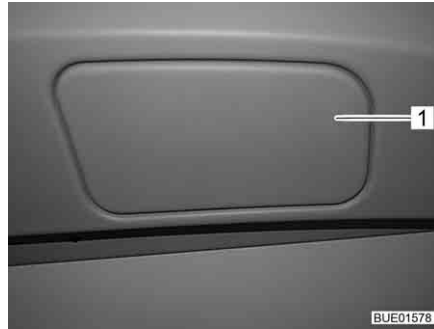
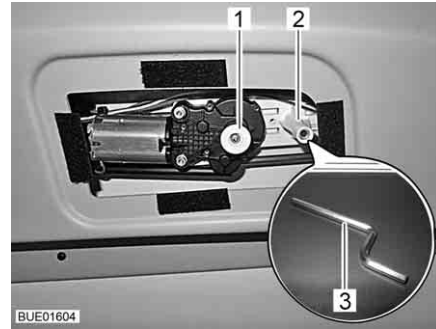

Fig. 35 Emergency release cover
Fig. 36 Windscreen shade emergency release
- Remove the cover (Fig. 35,1) of the emergency release on the driver's cabin ceiling using a flat object (e.g. coin).
- Insert the long arm of the hexagon spanner (Fig. 36,3) provided into the socket (Fig. 36,2).
- Push the knob (Fig. 36,1).
- Pull the knob (Fig. 36,1) and fit the cover (Fig. 35,1).